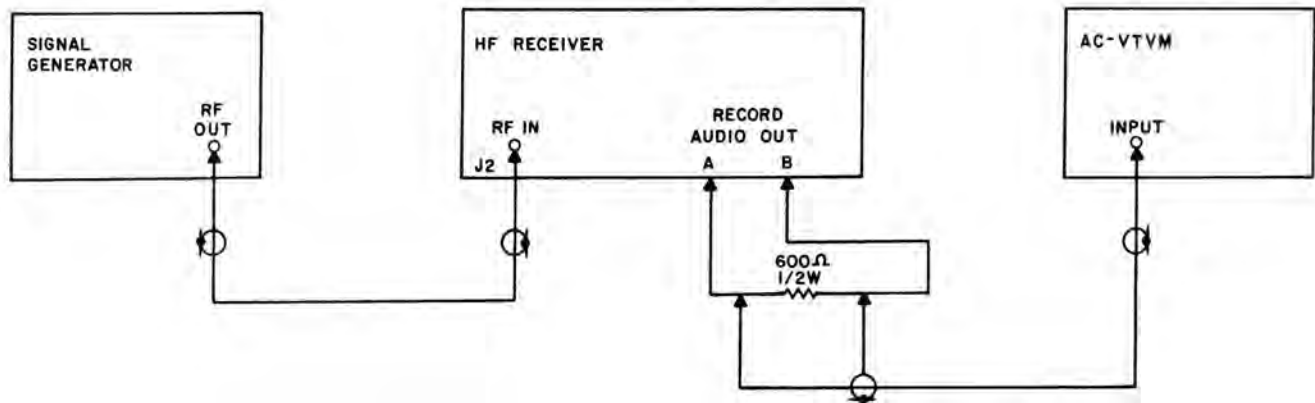

Figure 4-3. MAN/AGC Performance Test
1. Connect the test equipment to the receiver as shown in Figure 4-3.